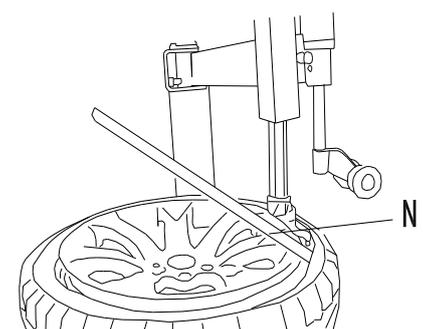
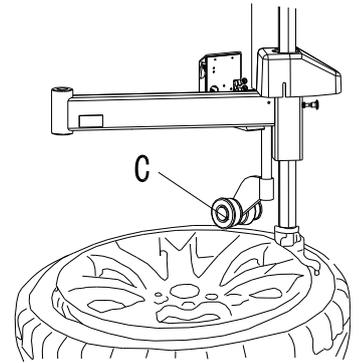

Fig 24
Fig 25
3. Nearby demounting/mounting head, insert lift lever N into tyre, use lift lever to lift bead upon knob of demounting / mounting head. Fig24 Manually rotate roller C to inner side, pull handle D down, make roller C to press rim , keep 3-5mm gap between demounting/mounting head and rim, make sure demounting/mounting head not damage rim, rotate turntable, demount tyre upper bead (Fig 25)